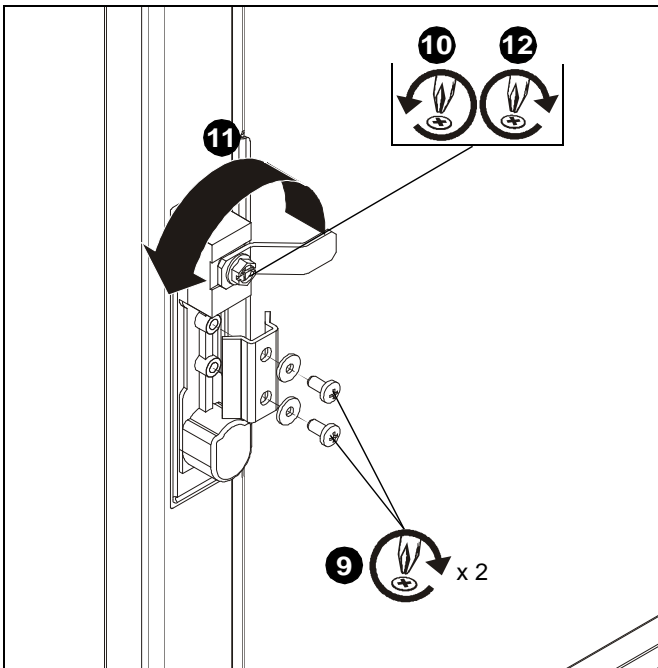

Figure 29
9. Reattach removed screws, washers and bracket to handle. (See Figure 29)
10. Loosen the locking cam screw. (See Figure 29)
11. Flip the locking cam tab to the side nearest the edge of the door. (See Figure 29)
12. Tighten the locking cam screw. (See Figure 29)